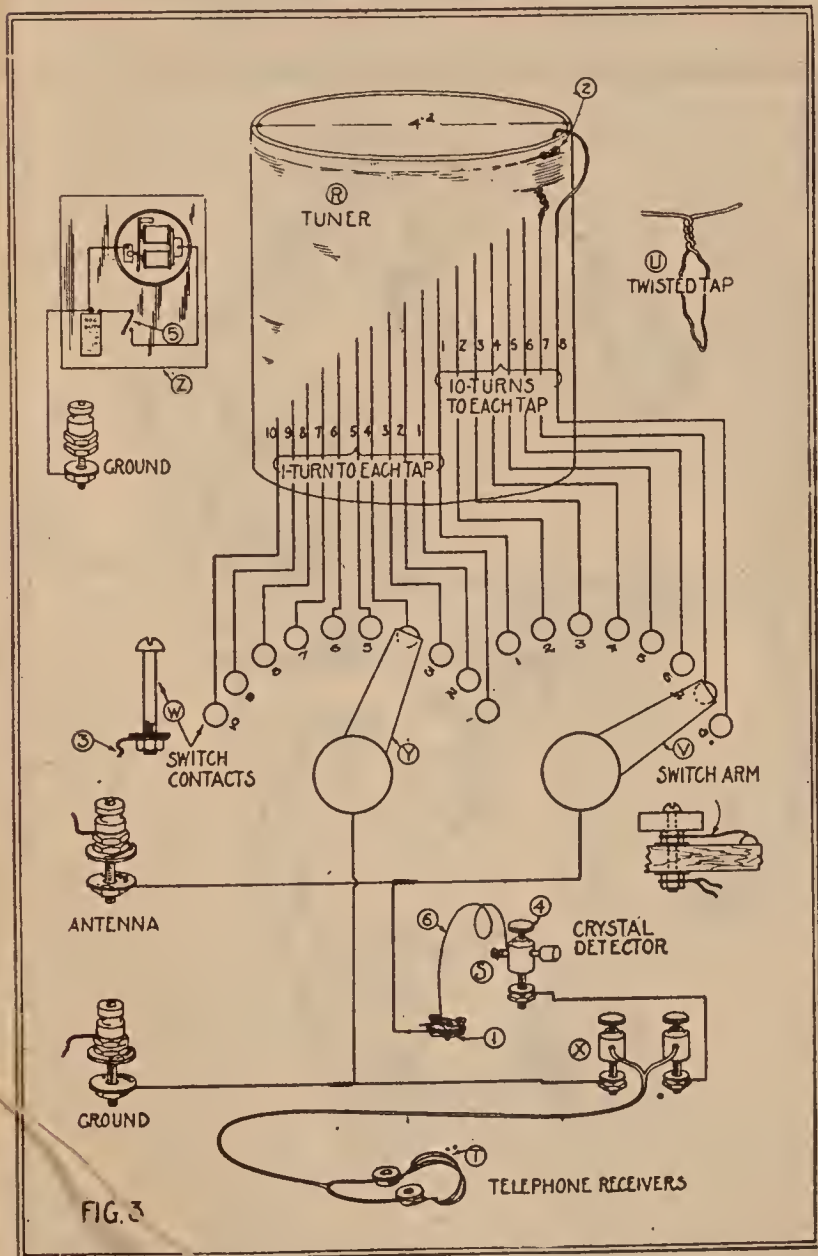
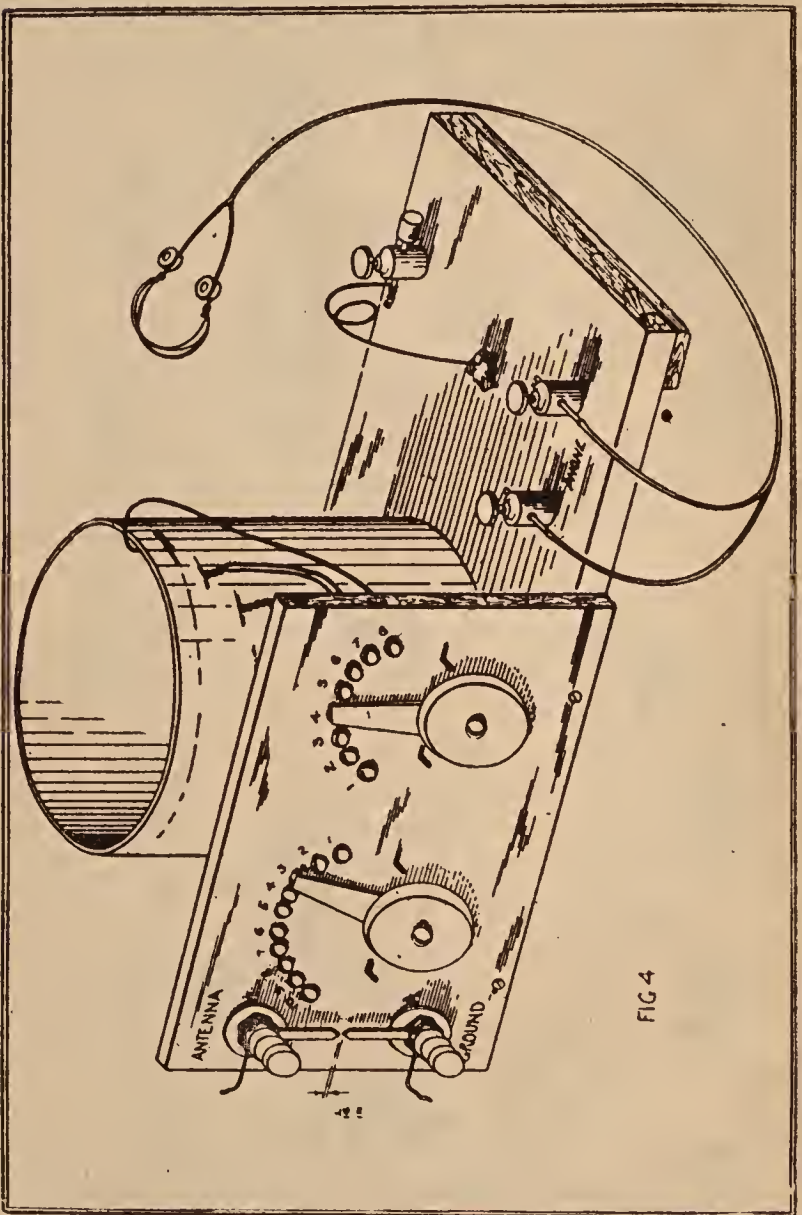

FIG. 3
FIG 4
Tuner (R, Fig. 3)—This is a piece of cardboard or other non-metallic tubing with turns of copper wire wound around it. The cardboard tubing may be an oatmeal box. Its construction is described in detail below.
Crystal Detector (S, Fig. 3)—The construction of a crystal detector may be of very simple design and quite satisfactory. The crystal, as it is ordinarily purchased, may be unmounted or mounted in a little block of metal. For mechanical reasons the mounted type may be more satisfactory, but that is of no great consequence. It is very important, however, that a very good tested crystal be used. It is probable also that a galena crystal will be more satisfactory to the beginner.
The crystal detector may be made up of a tested crystal, three wood screws, short piece of copper wire, a nail, set-screw type of binding post, and a wood knob or cork. The tested crystal is held in position on the wood base by three brass wood-screws as shown at 1, Fig. 3. A bare copper wire may be wrapped tightly around the three brass screws for contact. The assembling of the rest of the crystal detector is quite clearly shown in Fig. 3.
Phone (T, Fig. 3)—It is desirable to use a pair of telephone receivers connected by a
Tuner—See R, Fig. 3. Having supplied oneself with a piece of cardboard tubing 4 in. in diameter and about $\frac{1}{2}$ pound of No. 24 (or No. 26) double cotton covered copper wire, one is ready to start the winding of the tuner. Punch two holes in the tube about $\frac{1}{2}$ in. from one end as shown at 2 on Fig. 3. Weave the wire through these holes in such a way that the end of the wire will be quite firmly anchored, leaving about 12 inches of the wire free for connections. Start with the remainder of the wire to wrap the several turns in a single layer about the tube, tightly and closely together. After 10 complete turns have been wound on the tube hold those turns snugly while a tap is being taken off. This tap is made by making a 6 in. loop of the wire and twisting it together at such a place that it will be slightly staggered from the first tap.
This method of taking off taps is shown quite clearly at U, Fig. 3. Proceed in this manner until 7 twisted taps have been taken off at every 10 turns. After these first 70 turns have been wound on the tube then take off a 6 in. twisted tap for every succeeding single turn until 10 additional turns have been wound on the tube. After winding the last turn of wire anchor the end by weaving it through two holes punched in the tube much as was done at the start, leaving about 12 in. of wire free for connecting. It is to be understood that each of the 18 taps is slightly staggered from the one just above, so that the several taps will not be bunched along one line on the cardboard tube. See Fig. 3. It would be advisable, after winding the tuner as just described, to dip the tuner in hot paraffin. This will help to exclude moisture.
Upright Panel and Base—Having completed the tuner to this point, set it aside and construct the upright panel shown in Fig. 4. This panel may be a piece of wood approximately $\frac{1}{2}$ in. thick. The position of the several holes for the binding posts, switch arms and switch contacts may first be laid out and drilled. The "antenna" and "ground" binding posts may be ordinary $\frac{1}{8}$ in. brass bolts of sufficient length and supplied with three nuts and two washers. The first nut binds the bolt to the panel, the second nut holds one of the short pieces of stiff wire, while the third nut holds the antenna or ground wire as the case may be. The switch arm with knob shown at V, Fig. 3, may be purchased in the assembled form or it may be constructed from a thin slice cut from a broom handle and a bolt of sufficient length equipped with four nuts and two washers to-
gether with a narrow strip of thin brass somewhat as shown. The switch contacts (W, Fig. 3) may be of the regular type furnished
The telephone binding post should preferably be of the set screw type as shown at X, Fig. 3.
Having constructed the several parts just mentioned and mounted them on the wood base, one is ready to connect the several taps to the switch contacts and attach the other necessary wires. Scrape the cotton insulation from the loop ends of the sixteen twisted taps as well as from the ends of the two single taps coming from the first and last turns. Fasten the bare ends of these wires to the proper switch contacts as shown by the corresponding numbers in Fig. 3. One should be careful not to cut or break any of the looped taps. It would be preferable to fasten the connecting wires to the switch contacts by binding them between the washer and the nut as shown at 3, Fig. 3. A wire is run from the back of the binding post marked "ground" (Fig. 3) to the back of the left-hand switch-arm bolt (Y), thence to underneath the left-hand binding post marked "phones." A wire is then run from underneath the right-hand binding post marked "phones" to underneath the binding post (4, Fig. 3), which forms a part of the crystal detector. A piece of No. 24 bare copper wire about $2\frac{1}{2}$ in. long, one end of which is twisted tightly around the nail (the nail passing through binding post 4), the other end of which rests gently by its own weight on the crystal (1). The bare copper wire which was wrapped tightly around the three brass wood-screws holding the crystal in place is lead to and fastened at the rear of the right-hand switch arm bolt (v), thence to the upper left-hand binding post marked "antenna." As
much as possible of this wiring is shown in Fig. 3.
The Test Buzzer (Z, Fig. 3)—As mentioned previously, it is easy to find the more sensitive spots on the crystal by using a test buzzer. The test buzzer is used as a miniature local transmitting set. When connected to the receiving set as shown at Z, Fig. 3, the current produced by the buzzer will be converted into sound by the telephone receivers and the crystal, the loudness of the sound depending on what part of the crystal is in contact with the fine wire. To find the most sensitive spot connect the test buzzer to the receiving set as directed, close the switch (5, Fig. 3) (and if necessary adjust the buzzer armature so that a clear note is emitted by the buzzer), set the right-hand switch arm on contact point No. 8, fasten the telephone receivers to the binding posts marked "phones," loosen the set screw of the binding post slightly and change the position of the fine wire (6, Fig. 3) to several positions of contact with the crystal unit until the loudest sound is heard in the phones, then tighten the binding post set screw (4) slightly.